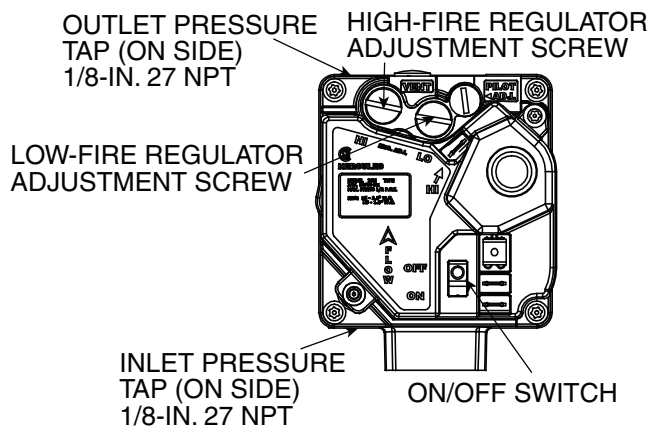

Fig. 51 — Gas Valve (Part Number EF33CW271)
6. Remove screw cap covering regulator adjustment screw (See Fig. 51).